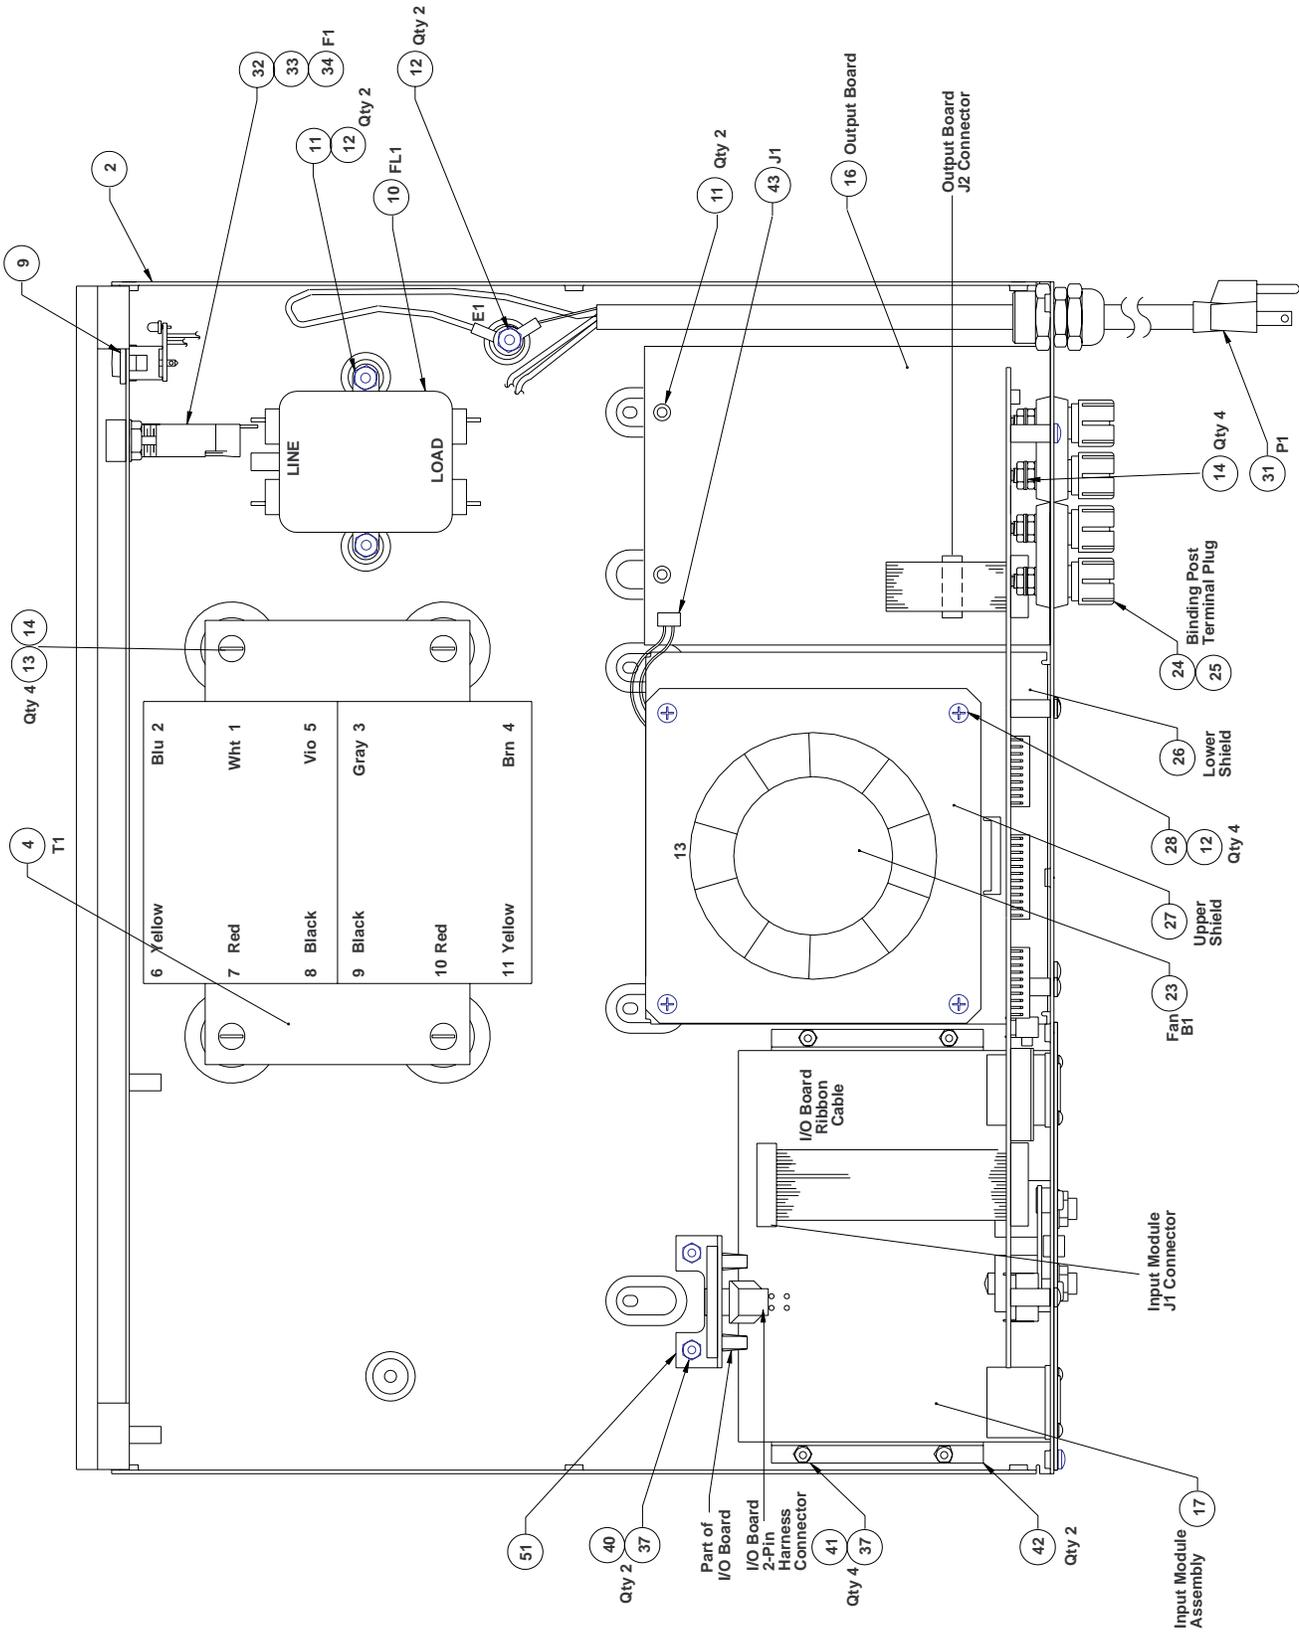

Figure 7. Bottom Mounted Components
6.3 Replace the transformer (4) using procedure 12. Refer to Figures 7 and 16 for correct wire locations.
Note: Refer to Figure 7 for the following procedures.
Note: Refer to Figures 7, 8 and 9 for the following procedures.